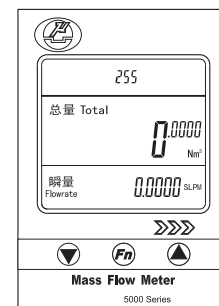
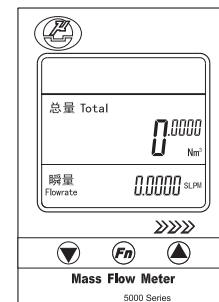

Figure 6-9 Multi-device communication mode
Figure 6-10 Single-device communication mode
(4) Communication Modes switches (Figure 6-9, Figure 6-10)
- Set the address of the meter(value of **SET Addr**) as (3).E. such as 255;
- Set the meter to *Multi-device communication mode* (select value of **PrOTOCOL** to P1-255 or P2-255) as (3).D;
- Set the meter to *Signal-device communication mode* (select value of **PrOTOCOL** to P0-000) as (3).D;